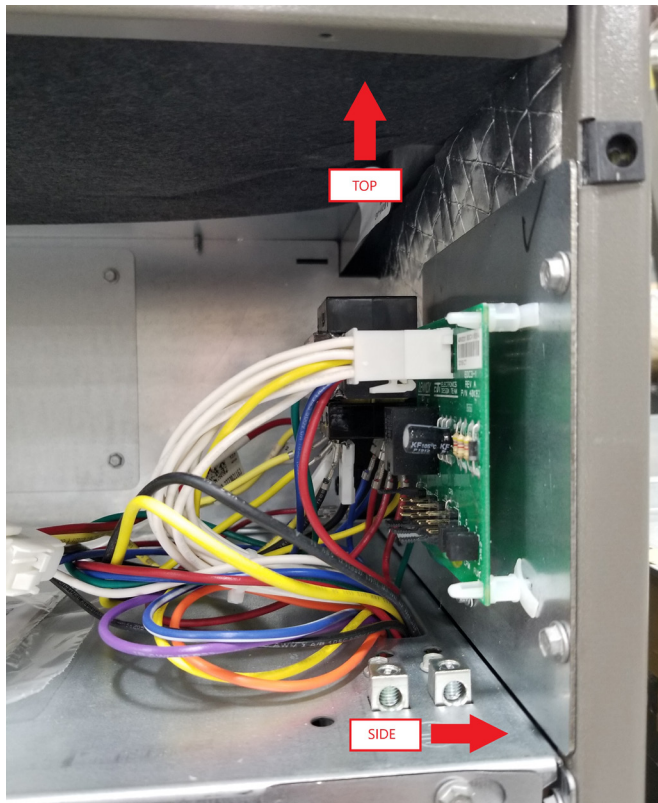

FIGURE 18. Electrical Connections (Upflow Configuration)
- 4 - Connect the suction and liquid lines to the evaporator coil. Take care to protect the cabinet and internal components as detailed in figure 18.